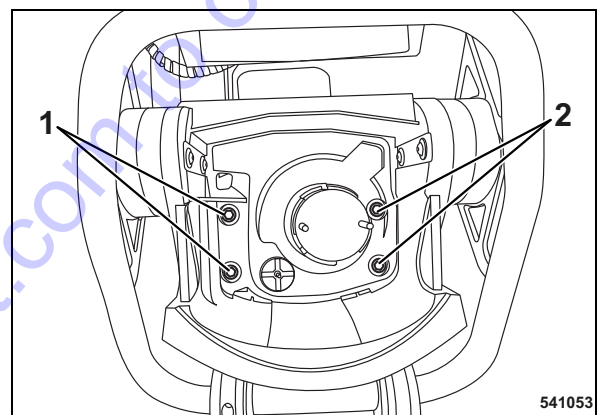

Fig. 47
- Unscrew the fastening screws (1) and (2) (Fig. 47) of the air filter housing.